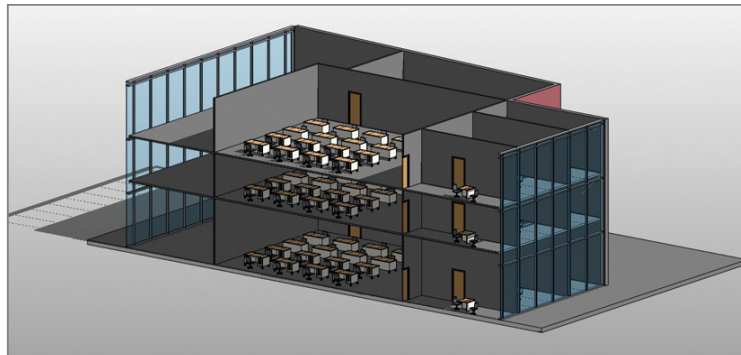

FIGURE 1.39 The 3D Cutaway view uses a section box to display the inside of a building.
5. Activate the 3D Cutaway view from the Project Browser to view the results of the aligned copying (Figure 1.39). Note that instructions for creating floors are in Chapter 3 of this book. Figure 1.39 is taken from the “finished” Revit file available for download from the companion website.